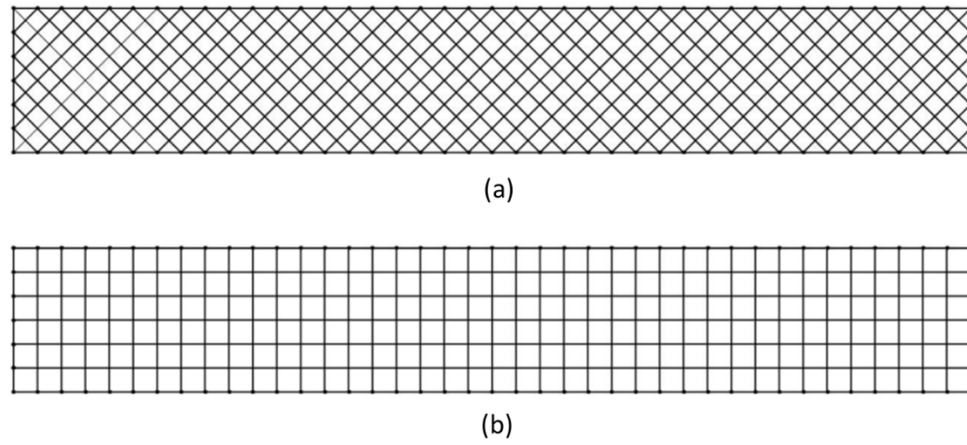

Figure 4: Raster angles (a)cross[0,90] (b)crisscross[-45,+45]
**Build orientation** refers to the orientation of the geometry of the specimen with respect to the build plate (i.e., flat, on edge, upright). In the above figure TN1, TN2, TN4, TN5 are printed flat on the build plate while TN3.1 and TN 3.2 are printed upright. **Raster orientation** refers to the direction of the filament strands with respect to the direction of the length of the specimen (i.e., the angle between the strands and the central axis of the specimen). Figure 4 shows the raster angles used for this experiment. For this experiment, we tested two raster orientations ( $[0^\circ, 90^\circ]$  and  $[-45^\circ, +45^\circ]$ ) and two build orientations (flat and upright).